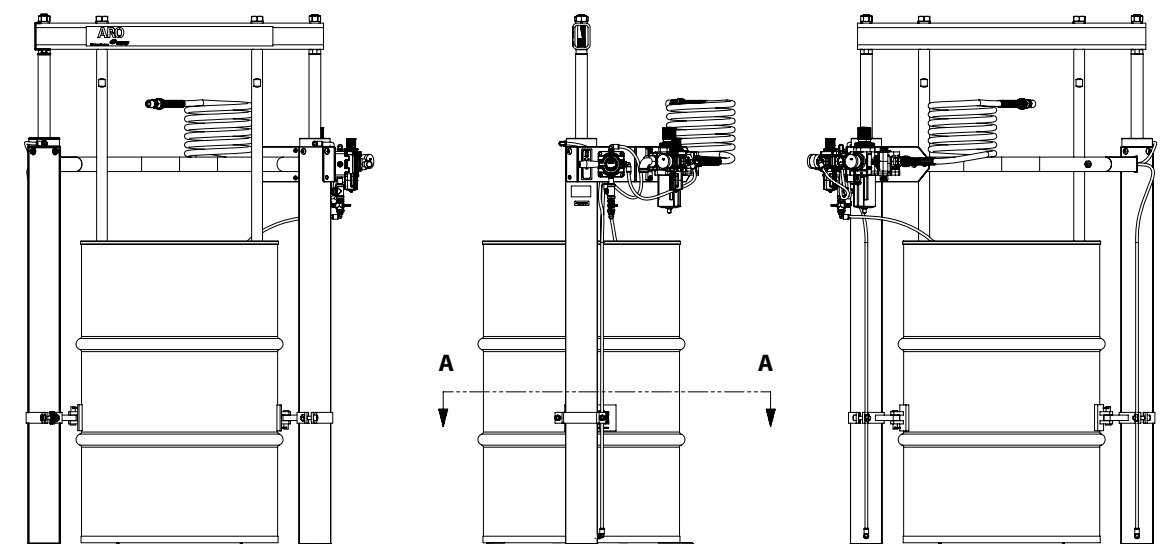

Figure 3
1. Install (5) Clevis Bracket on inside side of ram cylinders with clevis arm facing to the back (see figure 3, page 3).
2. Attach (1) Clamp Bracket on opposite side of ram cylinder from the (5) Clevis Bracket using (2) Cap Screws, (4) Nuts and (3) Lock Washer (see figure 3, page 3).
3. Attach (6) Clamp Shoe using (7) Clamp Pin and (8) Hair Pin Clip. The long side of the Clamp Shoe should be toward the front of the ram.
- c. Rotate the Clevis and Clamp Brackets around the cylinder so that the Clamp shoe is up against the drum (see figure 3, page 3).
- d. Tighten the (2) Cap Screws and (4) Nuts.